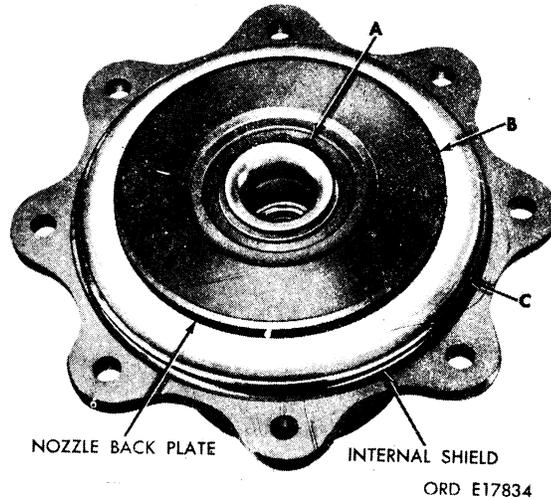
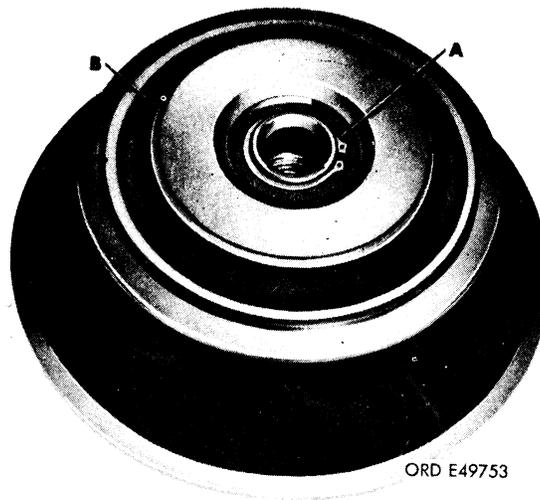

FIGURE 38. REMOVING OR INSTALLING RETAINING RING, NOZZLE BACK PLATE, AND INTERNAL SHIELD - TURBOCHARGERS 7748900 AND 10935279.
FIGURE 39. REMOVING OR INSTALLING RETAINING RING AND TURBINE BACK PLATE - TURBOCHARGERS 10912638 AND 53591-C-139552.
a. Remove retaining ring, nozzle back plate, and internal shield - turbochargers 7748900 and 10935279. Refer to figure 38.
- (1) Remove retaining ring (A) using snap ring pliers - 10935598.
- (2) Remove nozzle back plate (B).
- (3) Remove internal shield (C) on turbocharger 7748900 only.
b. Remove retaining ring and turbine back plate - turbochargers 10912638 and 53591-C-139552. Refer to figure 39.
- (2) Remove turbine back plate (B).